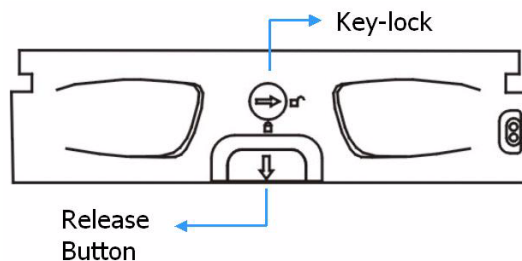

Fig. 3.3 Front View of an Individual Drive Tray
1. Make sure that the hard drive is secured to the drive tray. Make sure the key-lock is in the unlocked position. The key-lock is unlocked if the groove on its face is in a horizontal orientation. If the groove is in a vertical position, as shown in *Figure 3.3*, then the key-lock is locked and the front flap on the drive tray cannot be opened.